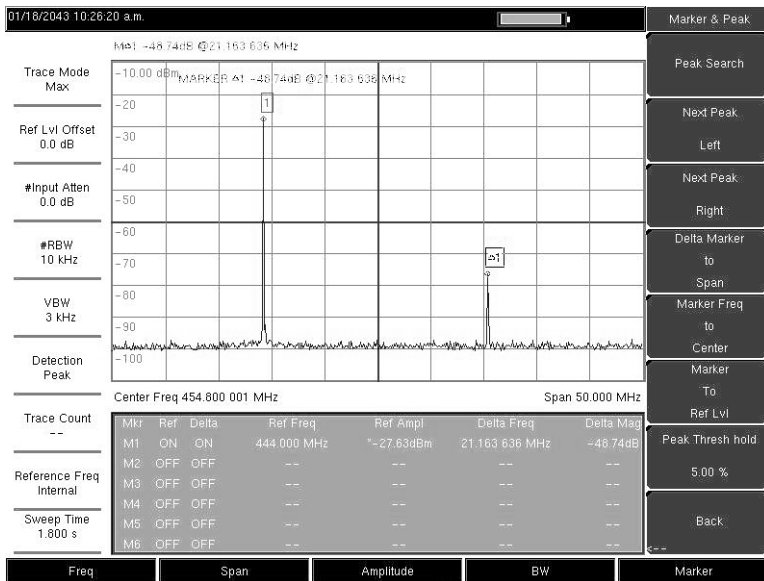

Figure 5-2. Simulated Out-of-Band Spurious Emission Measurement
10. Repeat 8. and 9. for the remaining spurs. Use either Marker 1 again, or choose another marker. Figure 5-2 shows a simulated out-of-band spurious signal 21.000 MHz from the carrier using a delta marker.